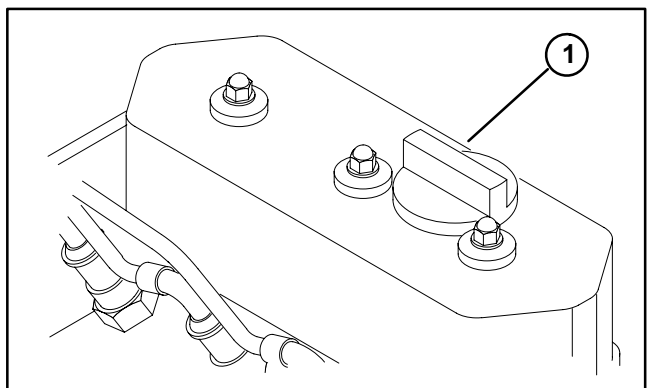

Figure 3
3. If oil level is low, remove oil fill cap (Fig. 3) and gradually add small quantities of oil. Check oil level frequently until level reaches the FULL mark on the dipstick.